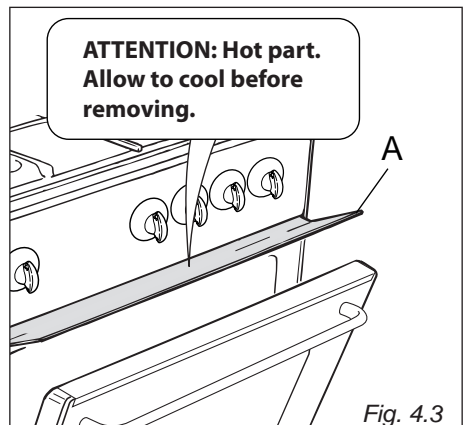

Fig. 4.3
**Very important: The grill must always be used with the oven door slightly open and with shield “A” mounted (fig. 4.3).**
**Very important: The rotisserie must always be used with the oven door slightly open and with shield “A” mounted (fig. 4.3).**